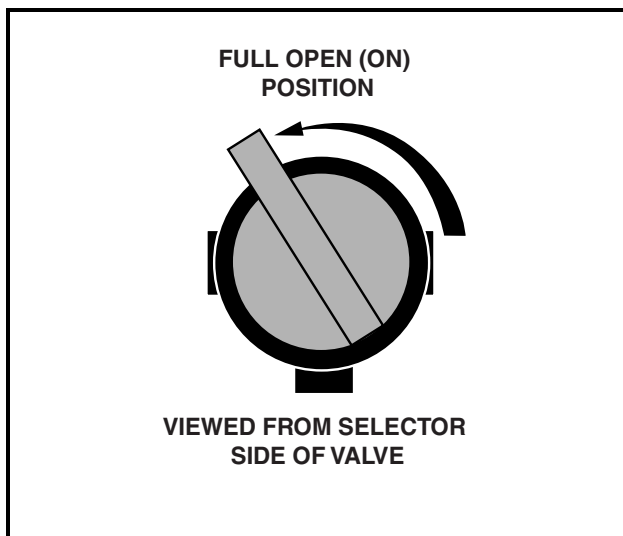
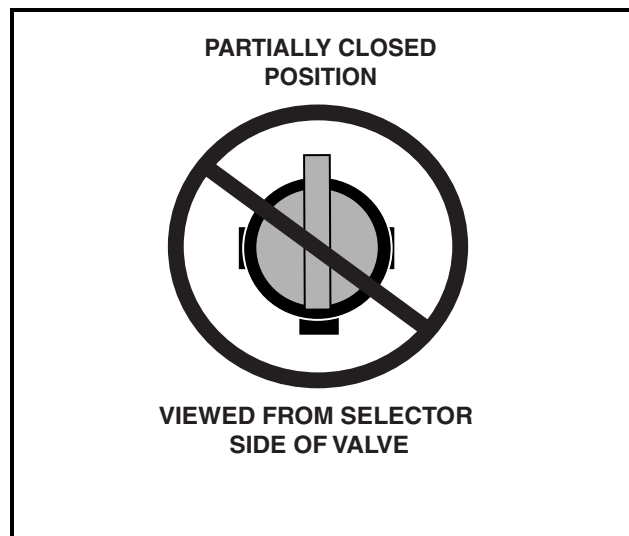

Figure 13 Fuel Shut-off Valve – Open Position
Figure 14 Fuel Valve – Partially Closed Position
4. **Gasoline vehicles only:** Completely open the fuel shut-off valve (**Figure 13**). Ensure the valve is fully open. A partially closed fuel shut-off valve combined with the use of the choke can result in a fouled spark plug and engine failure (**Figure 14**).
- **Gasoline vehicles only: Turn fuel shut-off valve to the closed (OFF) position (Figure 13).**